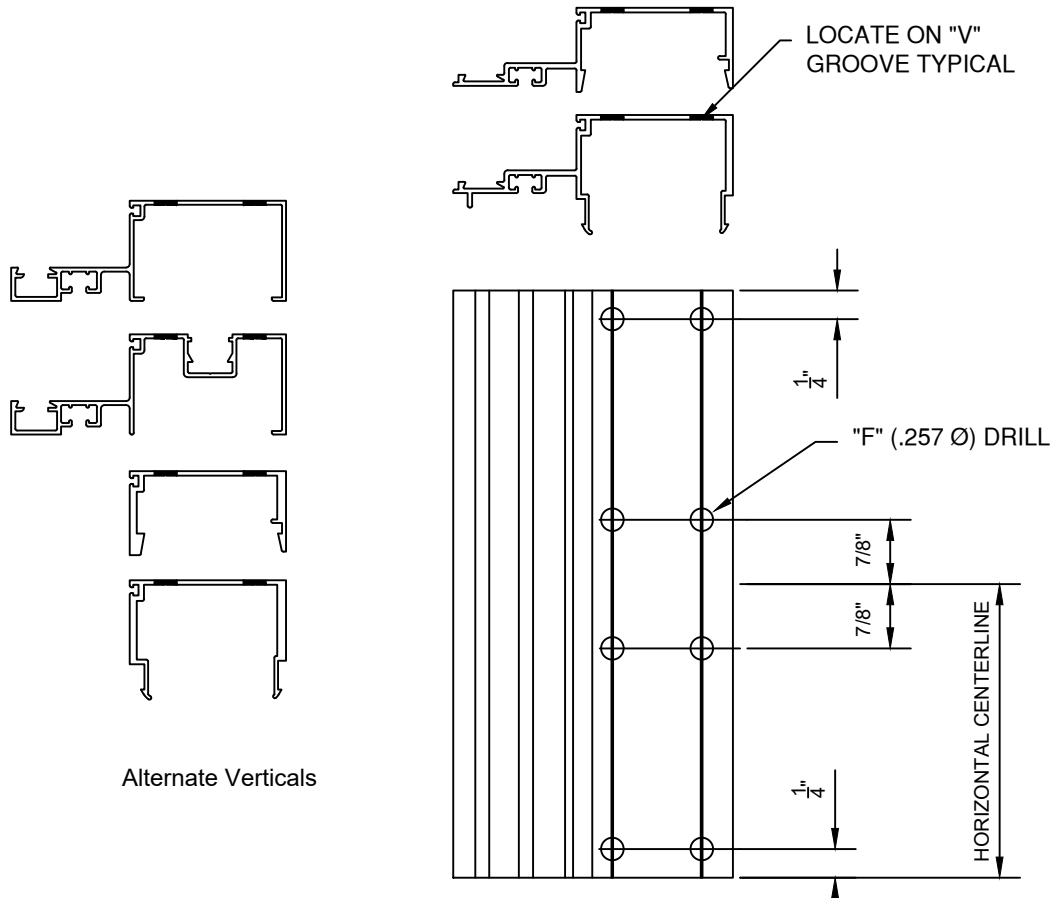

FIGURE 3
- 1.3 Fabricate vertical mullions for horizontal members using layout shown in FIGURE 3. Drill holes using "F" (.265 dia.) locate on "V" grooves on inside of vertical members at dimensions shown.